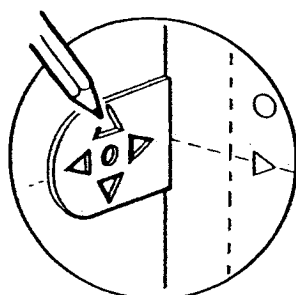

Fig. 37
9. Holding the template firmly, mark the vertical centre line for the flue assembly by marking the point at the outer corners of the upper and lower cut outs (Fig. 37).